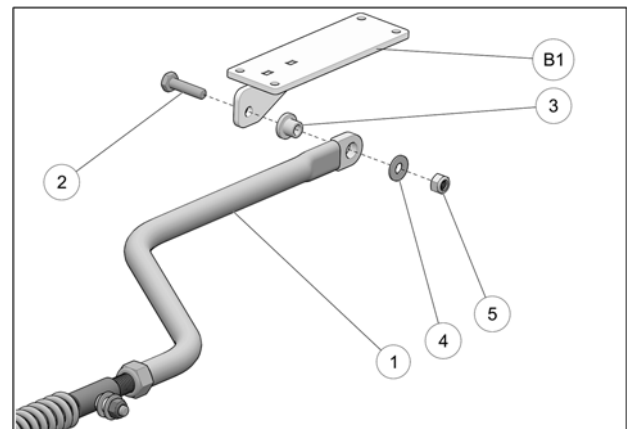

Fig. 7
- Attach the rear suspension stabilizing rod (**1**) to anchor plate (**B1**) using the bolt (**2**), bushing (**3**), washer (**4**) and nut (**5**). Torque to 50 N•m [37 lb•ft]. See Fig. 7